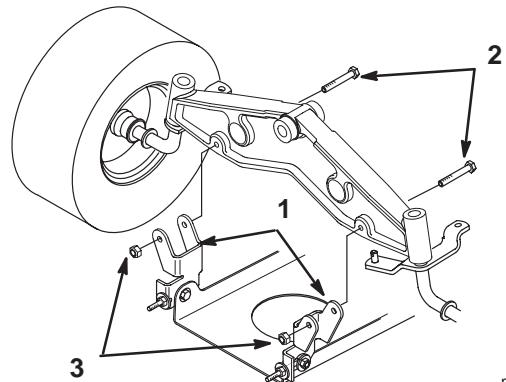

Figure 40
9. Remove the bolts and locknuts and pull the two mower pivot mount brackets down from the front axle (Fig. 40).